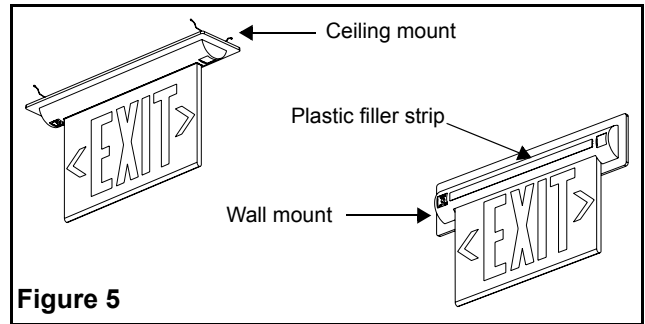

Figure 5
2. Determine how the exit panel will be orientated to the trim plate (see fig. 5). For ceiling mount applications, continue to step 3.
- c. Insert the plastic filler strip into the open slot in the trim plate (see fig. 5).